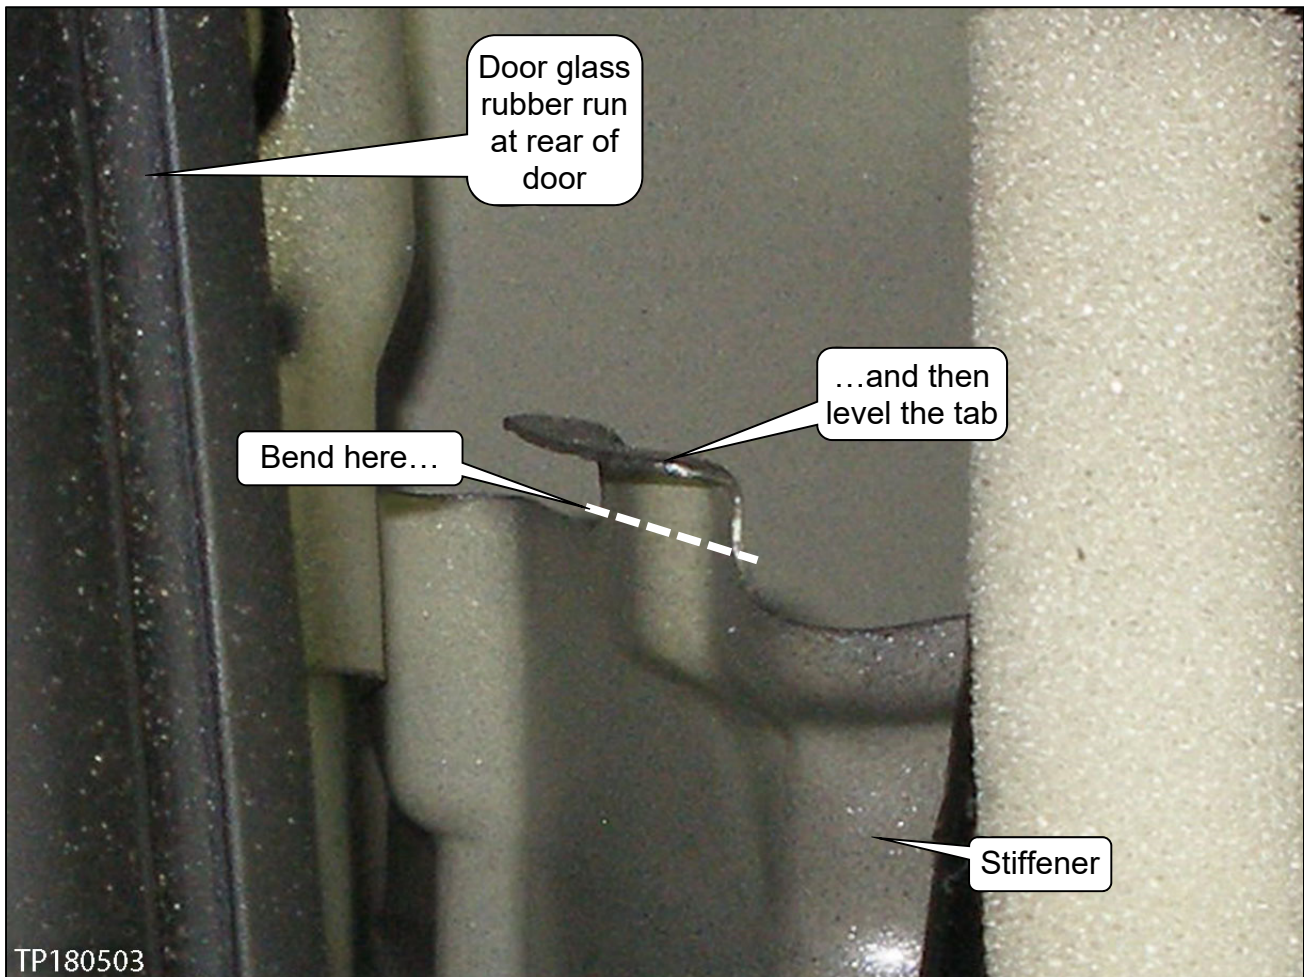

Figure 4
- Using a suitable pair of pliers, adjust the gap by bending the stiffener tab horizontally along the dashed line (see Figure 4).
- After adjusting the gap, adjust the tab as necessary to a level position (see Figure 4).